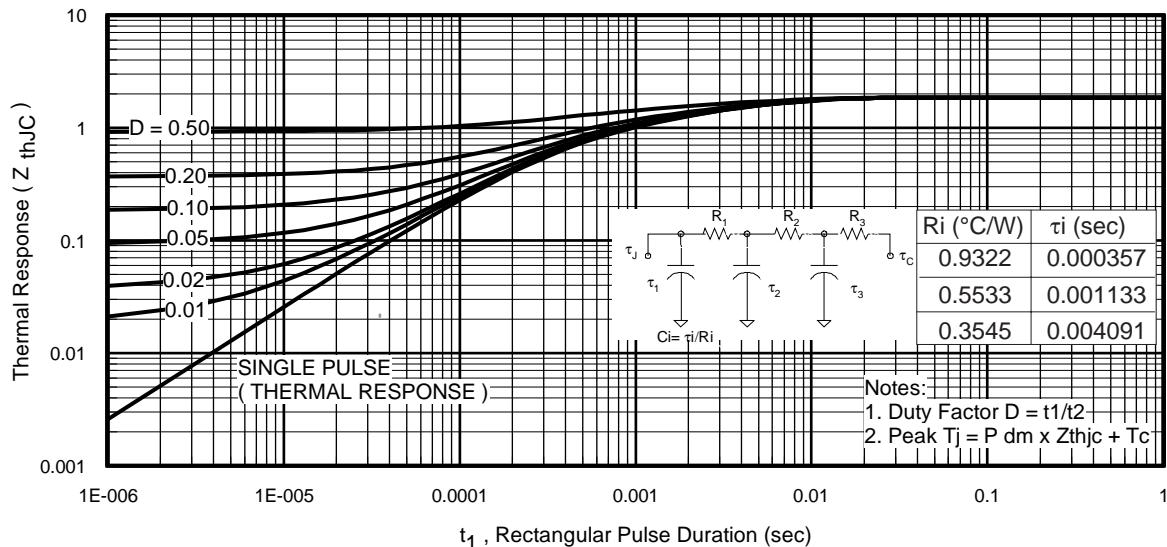
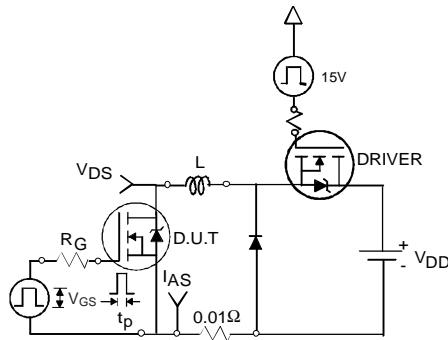

Fig 11. Maximum Effective Transient Thermal Impedance, Junction-to-Case
Fig 12a. Unclamped Inductive Test Circuit
- ① Repetitive rating; pulse width limited by max. junction temperature. (See fig. 11).
- ② Limited by $T_{J\max}$, starting $T_J = 25^\circ\text{C}$, $L = 0.13\text{mH}$, $R_G = 25\Omega$, $I_{AS} = 31\text{A}$, $V_{GS} = 10V$. Part not recommended for use above this value.
- ③ $I_{SD} \leq 31\text{A}$, $di/dt \leq 1070\text{A}/\mu\text{s}$, $V_{DD} \leq V_{(\text{BR})\text{DSS}}$, $T_J \leq 175^\circ\text{C}$.
- ④ Pulse width $\leq 1.0\text{ms}$; duty cycle $\leq 2\%$.
- ⑤ $C_{oss \text{ eff.}}$ is a fixed capacitance that gives the same charging time as C_{oss} while V_{DS} is rising from 0 to 80% V_{DSS} .
- ⑥ Limited by $T_{J\max}$, see Fig.12a, 12b, 15, 16 for typical repetitive avalanche performance.
- ⑦ This value determined from sample failure population. 100% tested to this value in production.
- ⑧ This is applied to D²Pak, when mounted on 1" square PCB (FR-4 or G-10 Material). For recommended footprint and soldering techniques refer to application note #AN-994.
3. Equation below based on circuit and waveforms shown in Figures 12a, 12b.
$Z_{thJC}(D, t_{av})$ = Transient thermal resistance, see figure 11)